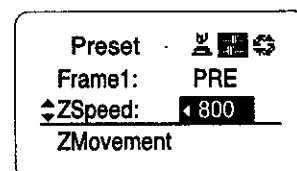

Fig. 6-18
The numerical value (see Fig. 6-18) which was set on the information display or by following the (2) Speed preset procedure is reflected as the speed.